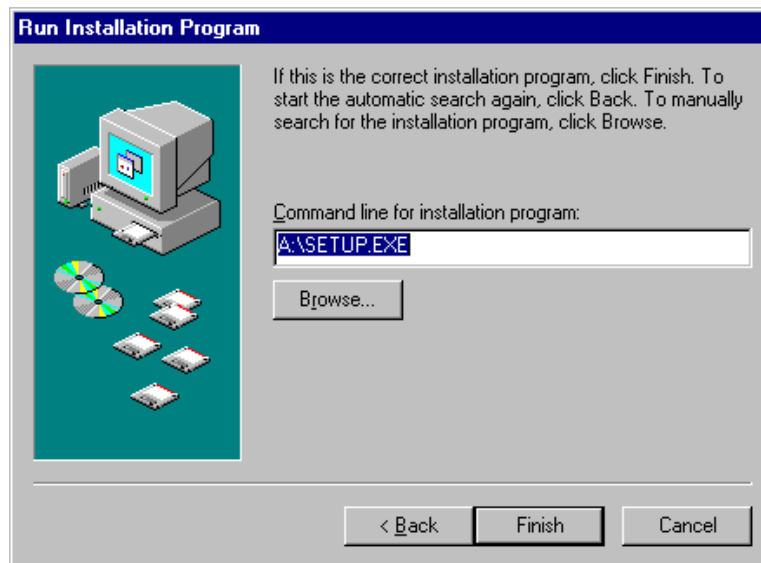

Figure 10.5 [Run Installation Program]
- (4) Click the <Next> button in the window shown in Fig. 10.4. The window shown in Fig. 10.5 appears.